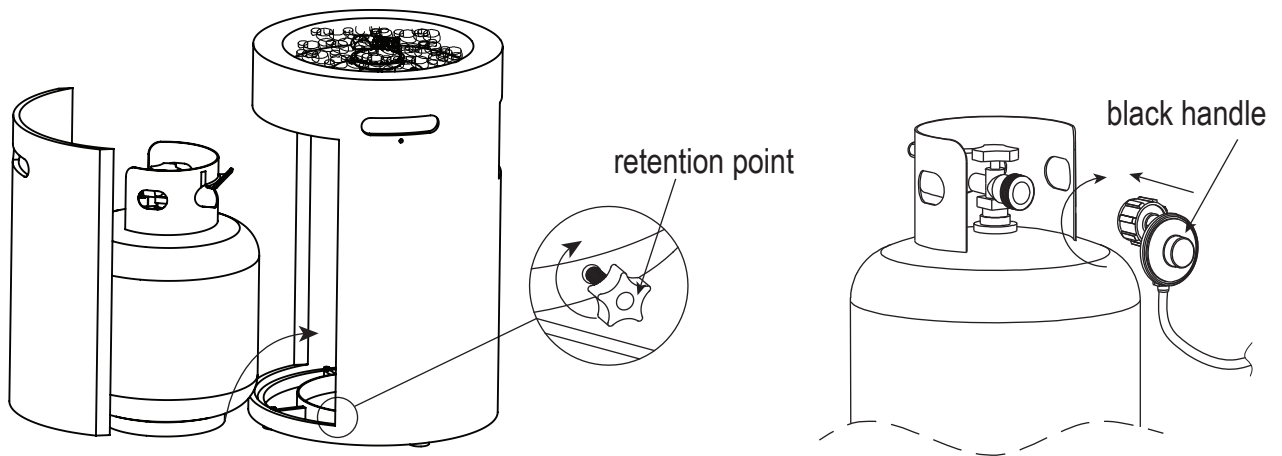

Figure 3
- Place the gas cylinder into the cylinder holder. Secure the cylinder by tightening clockwise the retention point found on the cylinder holder, so that the cylinder cannot move from side to side or fall down. Connect the regulator, screw the black handle clockwise to tighten, turn the black handle counterclockwise to remove. The hose must not turn upside. The knob on the control panel is turned all the way to the "OFF" position when the fire pit is NOT in use (See Figure 3).